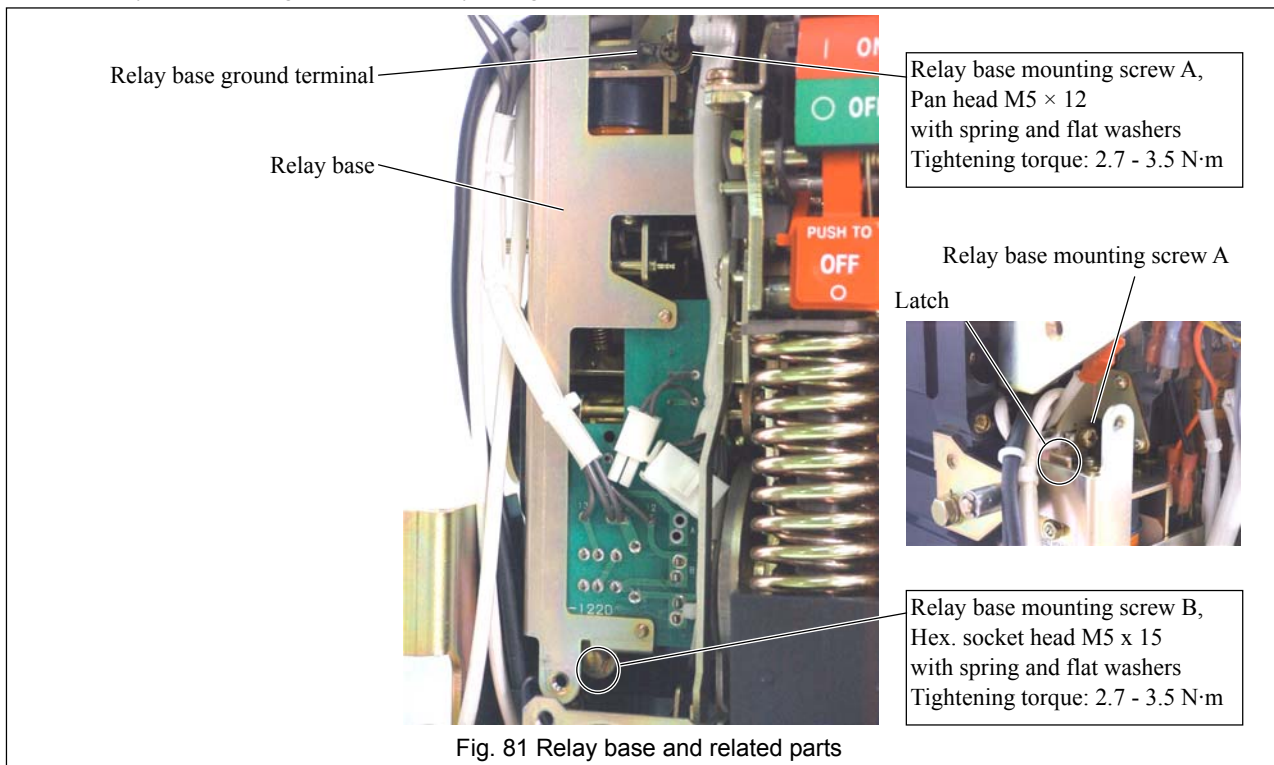

Fig. 81 Relay base and related parts
- 8) Unscrew relay base mounting screws A and B, raise the relay base to unlatch from other parts, remove the base and place it on the top of the breaker body. To remove relay base mounting screw B, use a ball end type 4-mm Allen wrench. See Fig. 81.